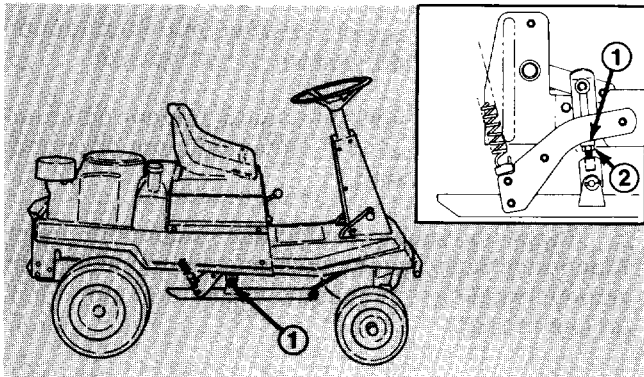

Figure 16
- E. Block up deck and remove cotter pin and washer securing link to lift bar (Fig. 16).